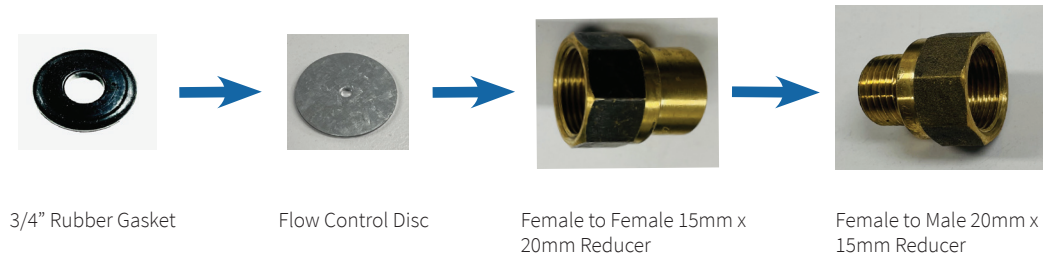

Fig. 3.17A Flow Control Disc installation
Insert the flow control disc and the rubber gasket into the Female-Female reducer and then connect the Female-Male reducer as shown in Fig. 3.17A below.
- Step 7: Connect the third male pipe nipple threaded 3/4" to the pre assembled reducers from Fig. 3.17A.